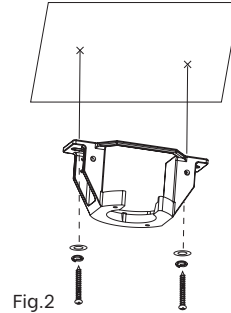

Fig.2
5. Attach the hanging bracket and secure with 5x38mm screws, washers and leveling pads provided and tighten with screwdriver (Fig.2).